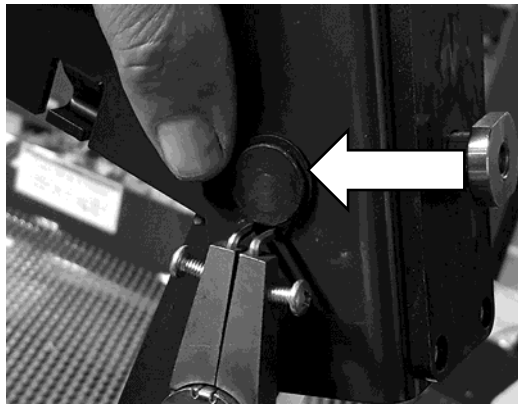

Figure 26. Lower Knuckle Link Arm Snap Ring, Top
2. Refer to **Figure 26**. Locate Upper/Lower Link Arm joint then remove Snap Ring. Retain Snap Ring for re-installation.